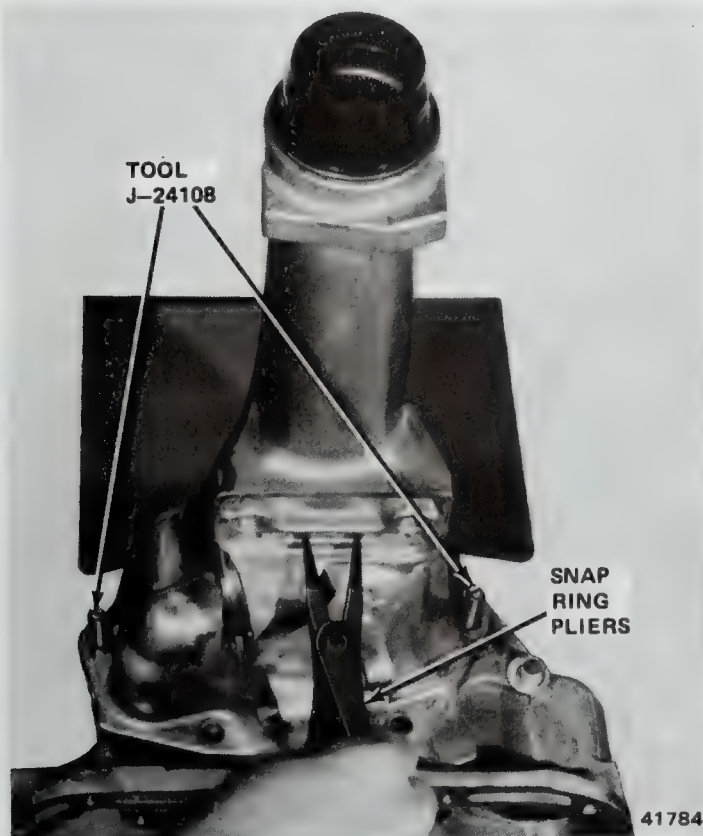

Fig. 2C-36 Extension Housing and Bearing Removal
- (1) Remove E-clip from weight end of governor valve (fig. 2C-37).